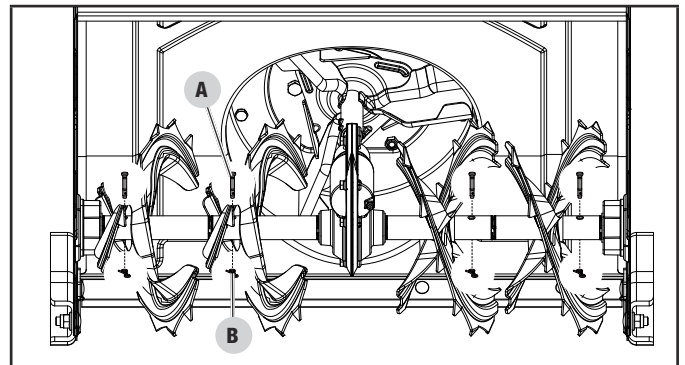

Figure 28A
The auger housing is shown as Fig. 28A. The augers are secured to the auger drive with shear pins (A) and clips (B). If the auger should strike a foreign object or ice jam, the snowblower is designed so that the lock pins may shear.